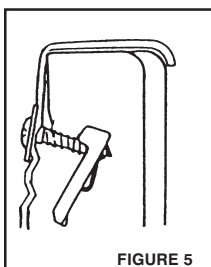

FIGURE 5
**IMPORTANT:** The "Liner-Lok™" must be in a loose downward-hanging position at this time. (see FIGURE 5)